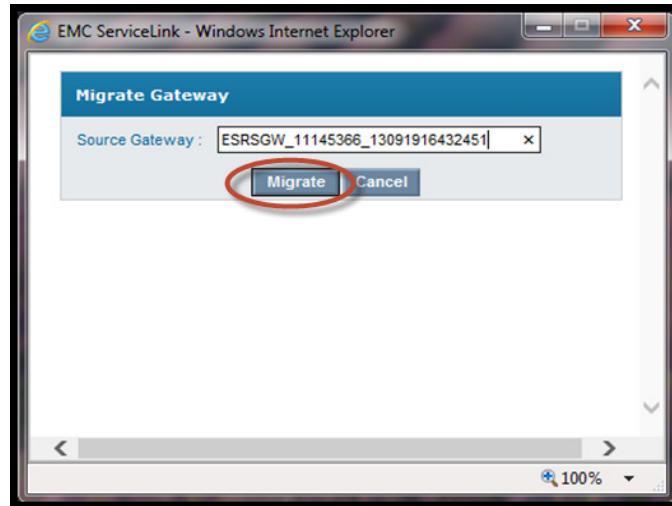

Figure 158 Migrate Gateway dialog box
6. In the Migrate Gateway dialog box, type your existing Gateway serial number, and then click **Migrate**, as shown in Figure 158 on page 122. The output that you receive will be based on the number of managed devices. This process will also pick up and migrate any existing errors.